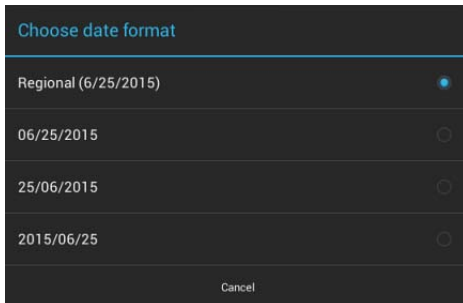

FIG. 67 Choose Date Format window
Choose Date Format:	Use the Choose Date Format window (FIG. 67) to select the desired date format.
1. Press **Choose Date Format** to open the *Choose date format* window (FIG. 67).